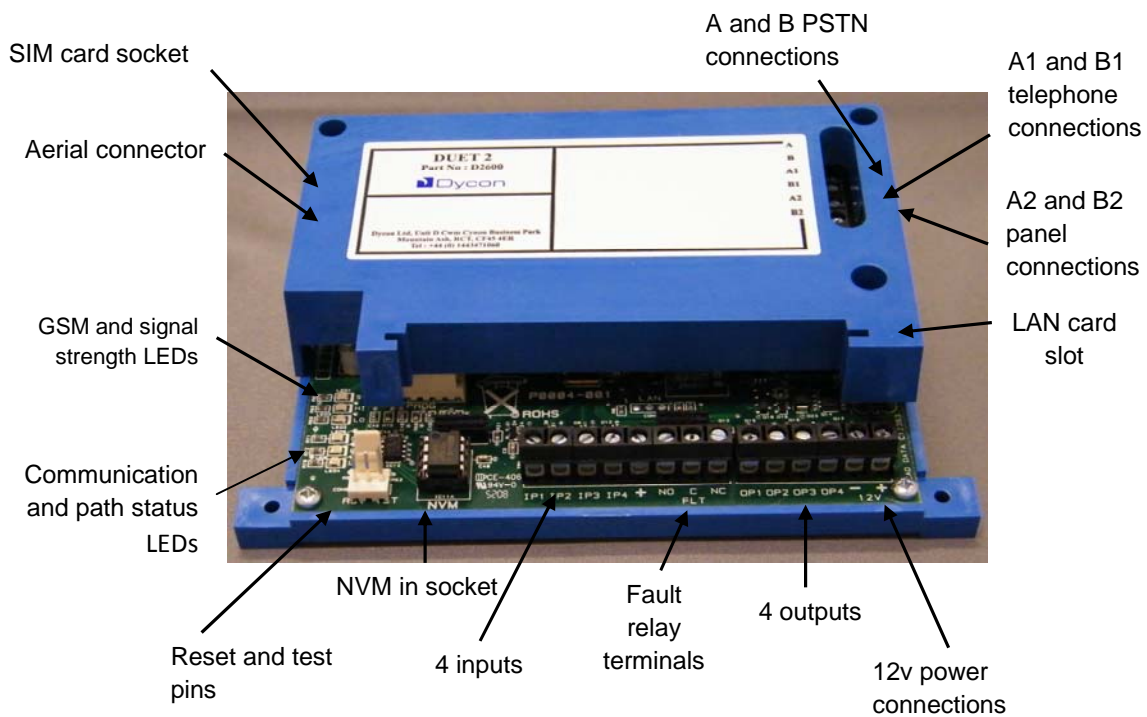

Fig 1 - D2600-B Duet2
7. Fit the NVM into the 8-pin socket located at the front of the Duet. See Fig 1.
8. Connect the 4 inputs and 4 outputs as required. See Fig 1 and Page 17.
10. Connect the aerial to the Duet aerial connector. See Fig 1.
14. On the Duet, connect the '12v +' & '12v -' terminals to the control panel or power supply's 12 volt output (often called 'Aux supply' or 'DC power'). See Fig 1.
2. To test **all** programmed reporting paths to the ARC, momentarily short the test pins on the Duet (see Fig 1). This will cause the Duet to send a test signal to the ARC on each path used (LAN / GPRS / GSM / SMS).